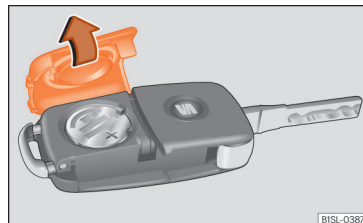

Fig. 100 Vehicle key: battery compartment cover.
- Remove the cover from the back of the vehicle key »»» Fig. 100 in the direction of the arrow »»» ❶.
- Fit the battery compartment cover, pressing in the direction of the arrow as shown »»» Fig. 100 until it clicks into place.
❶ CAUTION